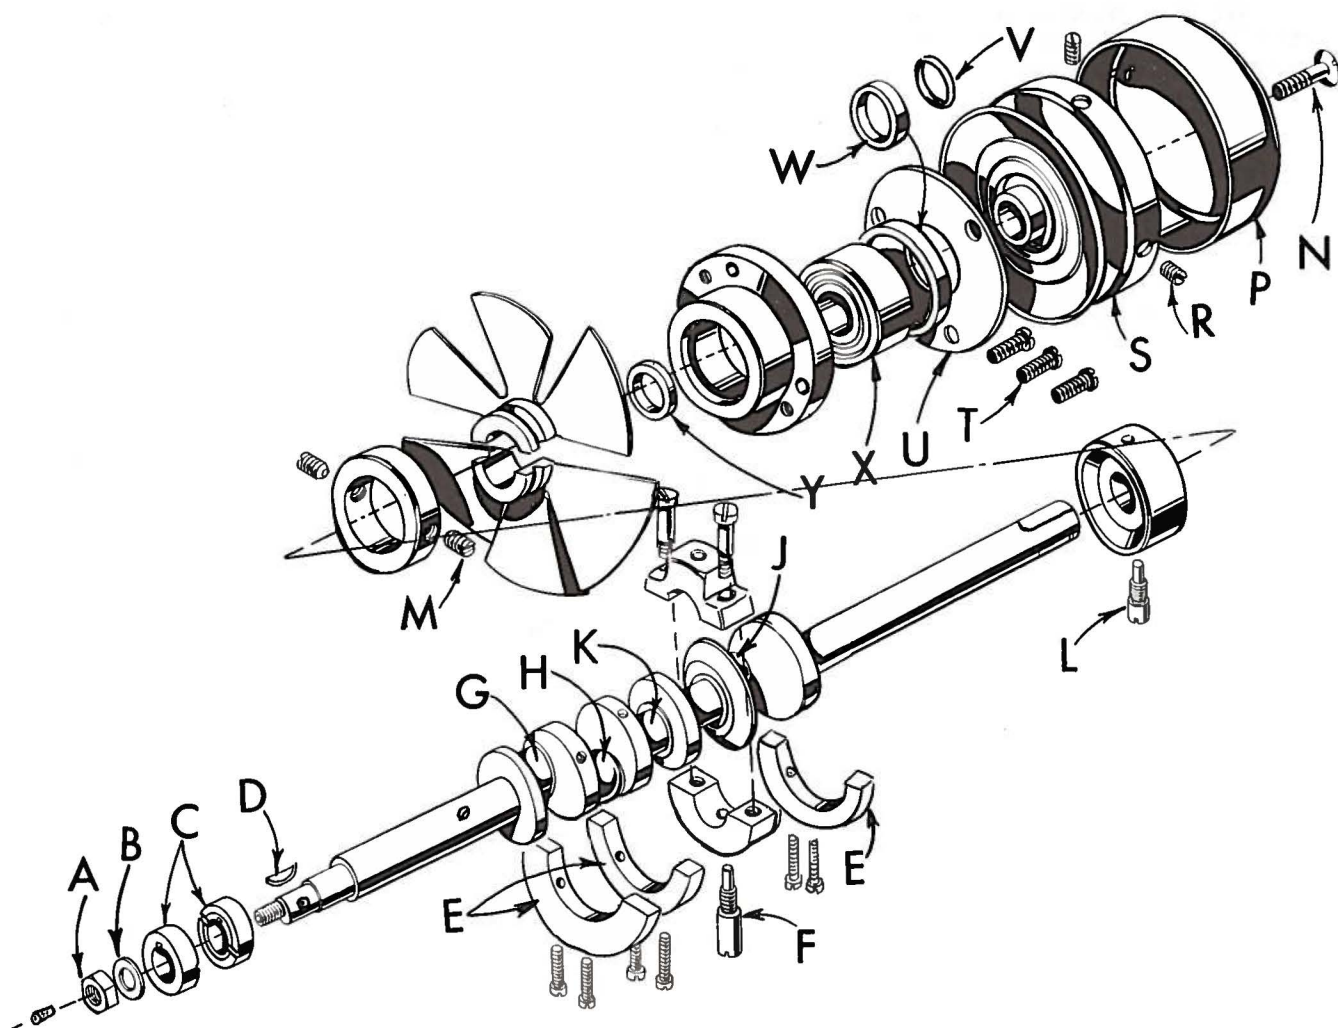
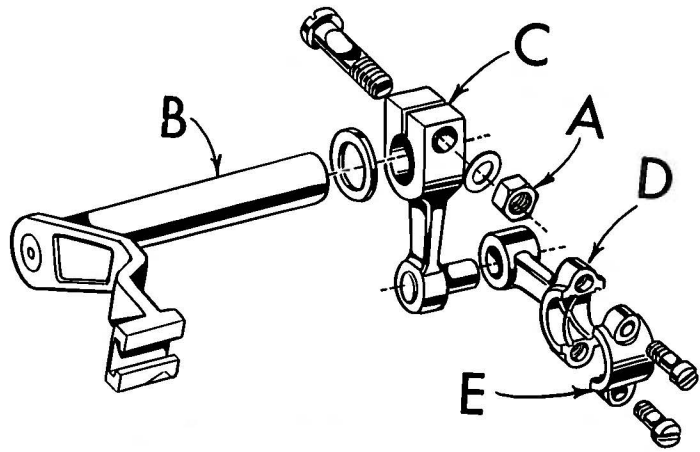

Fig. 15
Fig. 16
3. Remove feed eccentric nut (A, Fig.15 ) and washer (B), and, with the aid of the eccentric extractor, slip off the eccentrics (C).
4. Remove key (D).
5. Remove three counterweights (E). Identify these counterweights so that they will be re-assembled in the proper places.
6. Remove screw (F) which holds crankshaft split bearing. This screw is reached through bottom of bed casting.
8. Loosen clamp nut (A, Fig. 16) which holds upper knife driving arm (B). Access to clamp nut is through top cover. Draw driving arm to the left until upper knife driving lever (C) and connecting rod (D) drop, allowing removal of bearing cap (E). This is at bearing point (K, Fig. 15) on crankshaft. Observe same precautions when re-assembling cap as described in 7 above.
9. Remove screw (L, Fig. 15) which holds inner right crankshaft bearing. This screw is reached through bottom of bed casting.
10. Loosen two screws (M) in fan collar; remove both halves of cooling fan.
11. Remove screw (N); take off pulley cap (P).
12. Loosen two screws (R); remove pulley (S).
13. Remove three screws (T); take off bearing retaining plate (U); also, spacer collars (V) and (W) may be removed at this time.
15. If necessary to replace ball bearing (X), it should be pressed off shaft on an arborpress. In replacing bearing it must be pressed on carefully until it seats against ground thrust washer (Y).